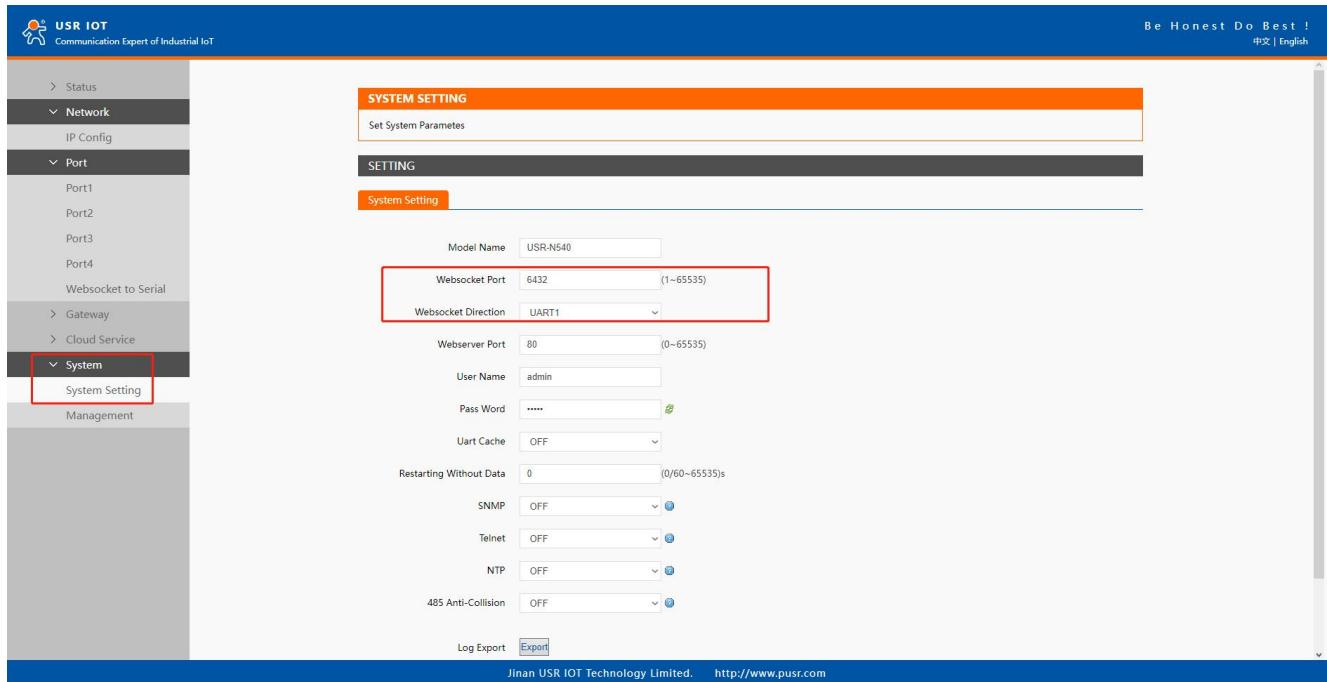

Fig. 62 Websocket server setting
1. Click on the “system setting” tab on the menu frame on the left side of Web UI to go to system setting page as shown in Fig.62.